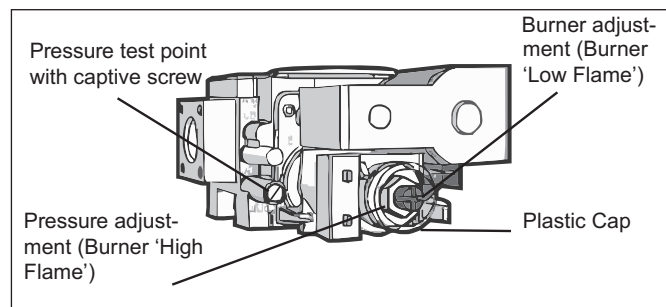
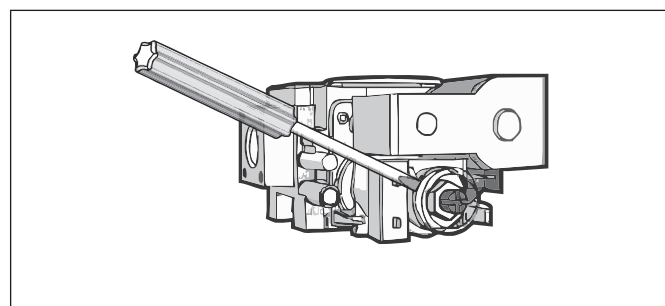

FIG 29
FIG 30
1. Gas valve layout is as indicated in **FIG 29**. Pressures for 'Burner High Flame' and 'Burner Low Flame' are factory set, however if pressures need to be checked or adjusted, follow the procedures described below. To check outlet pressure at burner 'High Flame' and 'Low Flame' positions remove the plastic cap from the regulator adjustment location as indicated in **FIG 30**.